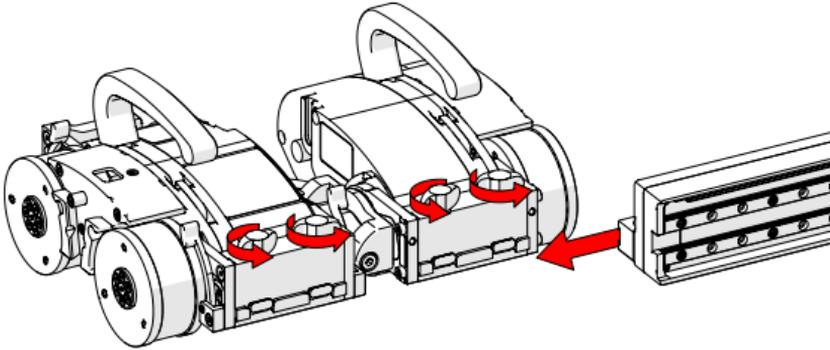

Fig. 31 - Slide onto one swivel mount
1. Loosen all four black wing knobs on both modules. Slide the raster arm's mounting rail onto the dovetail jaws of one of the modules (Fig. 31).